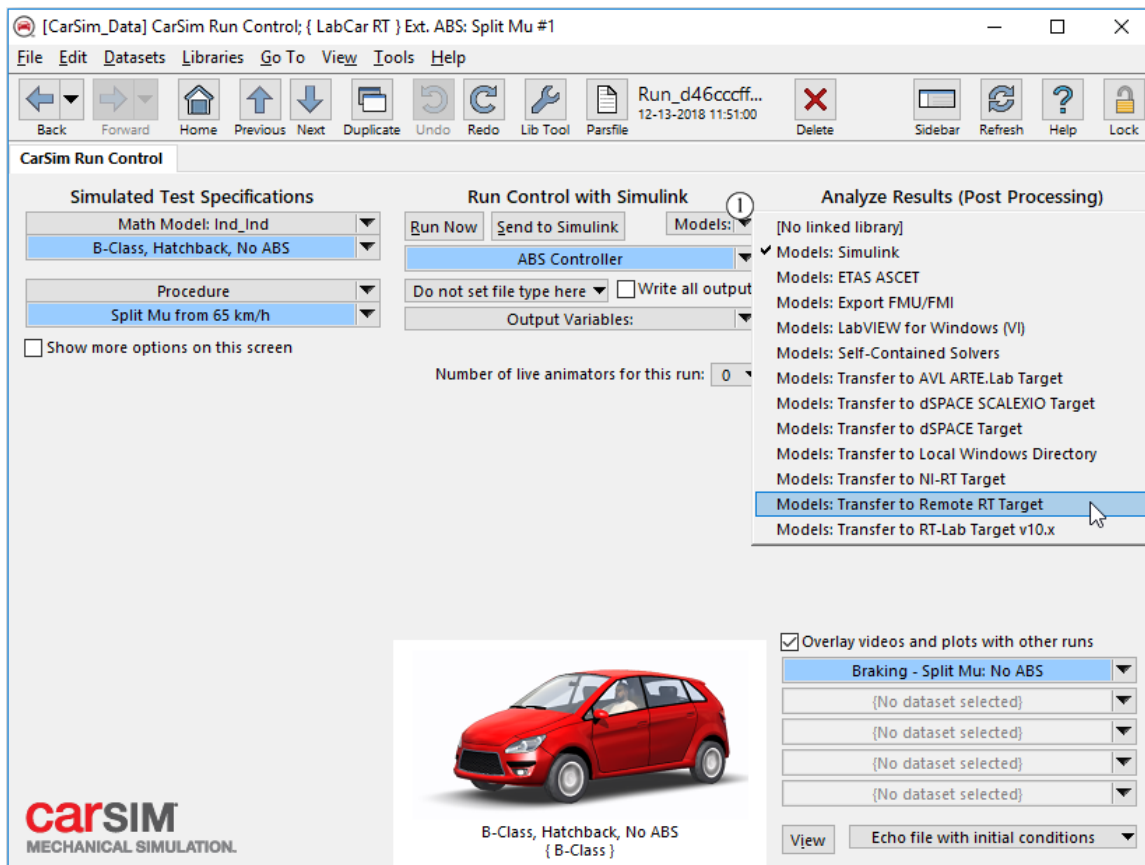

Figure 13. CarSim Run Control linked to ABS Model: change the linked Models library.
2. Use the **Models** drop-down list to select **Models: Transfer to Remote RT** ① (Figure 13).